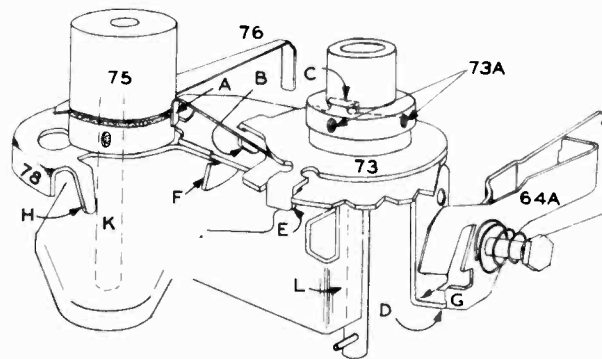

Fig. 4
The pickup arm should set the needle down at or just outside the "lead-in" groove of the record, regardless of the size of the record. The group of parts illustrated in Fig. 4 are all inter-related so it is advisable to follow a set routine when checking for the proper needle set down positioning. At the factory the following routine is followed:
the adjusting screw (78B) and move the adjusting ear so it just touches the 12" index adjusting ear (B of 73). See Fig. 4. Tighten the adjusting screw (78B) to hold the ear in this position.
1. Lip (D of 73, Fig. 4) should engage G of 64A by only about  $\frac{3}{32}$ ". If it is difficult for G to clear D, the movement of the pickup arm will not be properly controlled and erratic "Indexing" will result. Bend D, if necessary, to permit smooth, easy separation of these two parts.
1. No detent in end of finger D of (73). (See Fig. 4.)
3. Finger A of (73) bent so it does not stop and hold the velocity trip arm.